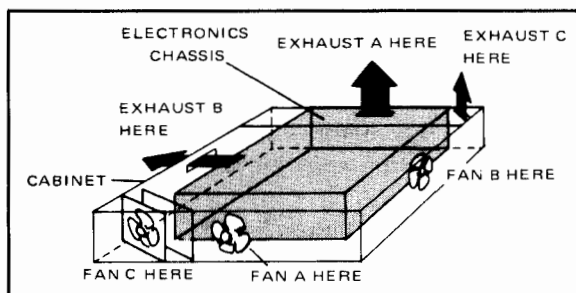

**Figure 3. One way out of a common fit problem**
1. First of all — **it must fit**. You may not always be able to use the lowest-cost, best-performing fan for a given airflow/pressure requirement, simply because it can't be accommodated in the enclosure. In this connection, don't overlook the possibility of mounting the fan on the top or bottom of a short enclosure — as shown in figure 3.